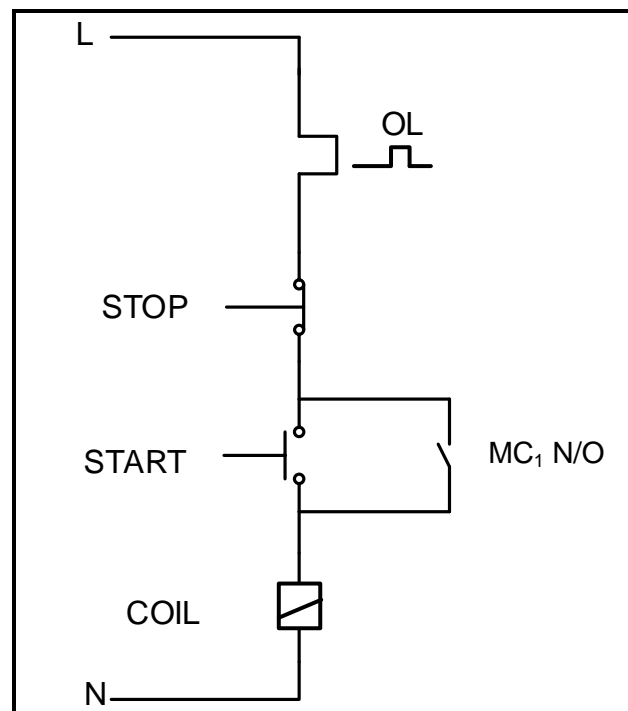

FIGURE 6.12: DIRECT-ON-LINE CONTROL CIRCUIT
- $$X = \bar{E}F\bar{G}\bar{H} + EF\bar{G}\bar{H} + \bar{E}FG\bar{H} + EFG\bar{H} + \bar{E}\bar{F}GH + E\bar{F}GH \quad (8)$$
- 6.12 Refer to the circuit in FIGURE 6.12 below and draw the ladder logic diagram that will execute the same function in a PLC system.